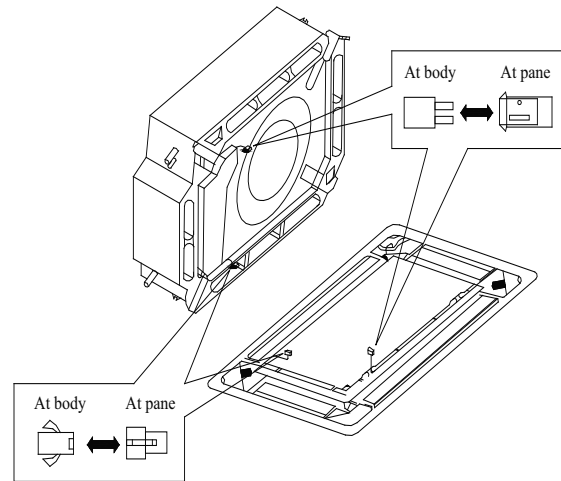

Fig. 18 — Connect joints
- (3.) Wiring of the decoration panel (Fig.18). Connect the joints for the swing flap motor lead wire (at 2 places) onto the panel.